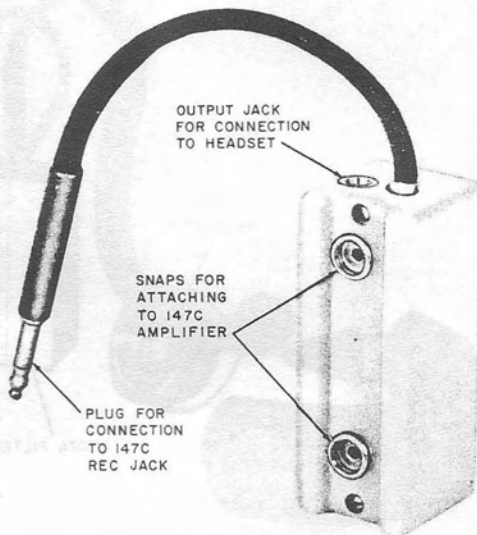

Fig. 1—1097A Filter
1.01 The 1097A filter (Fig. 1) is a narrowband filter designed for use with the 147C amplifier. This permits tuning and pair identification where noise or power influence is a problem. The 1097A filter will filter out power line interference and other electrical noise while amplifying the test tone.